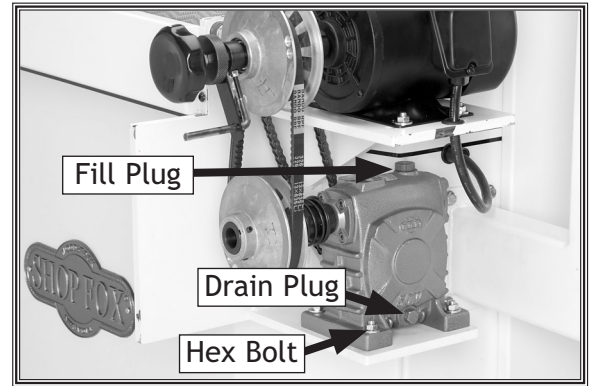

Figure 34. Lubricating gear box.
2. Remove the feed motor cover, loosen the four hex bolts (Figure 34) that secure the gear box to the motor bracket, and remove the V-belt.
3. With the oil and gearbox warm, slide the gearbox out, remove the fill plug (Figure 34), remove the drain plug, drain the oil, and reinstall the drain plug.